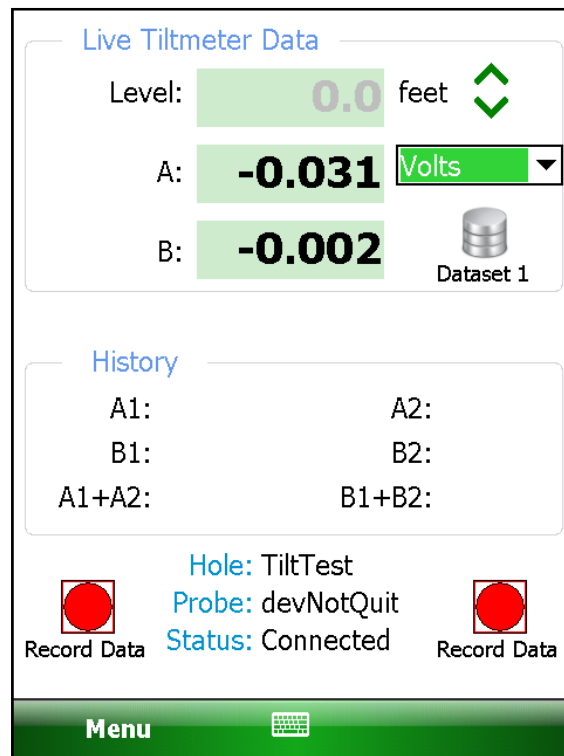

Figure 94 - Live Readings (Tiltmeter)
4. Tap the “Live Readings” menu item from the “Application” menu to start the reading process. If a valid Bluetooth connection can be established, a dual axis, tiltmeter specific, Live Readings screen will be displayed (see Figure 94).
Note the drop-down control in Figure 94, located just to the right of the “A” value display. This allows the “A” and “B” values to be displayed in 3 different units, described below: